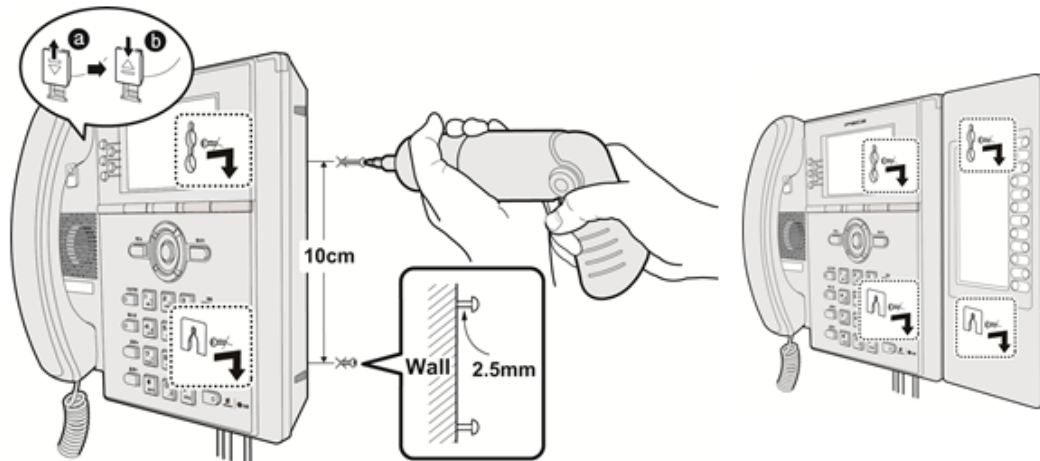

Figure 7.4.2-1 LIP-8000E Series Wall Mount Installation
1. Using Figure 7.4.2-1 Mark and drill two (2) 7mm holes for plastic wall anchors.
2. Insert the two (2) anchors into the holes and insert and tighten the 2 screws leaving about 2.5 mm (1/8-inch) exposed. If installing an LIP phone with a Console, also drill anchor holes and insert and tighten screws for the Console Wall Mount slots.